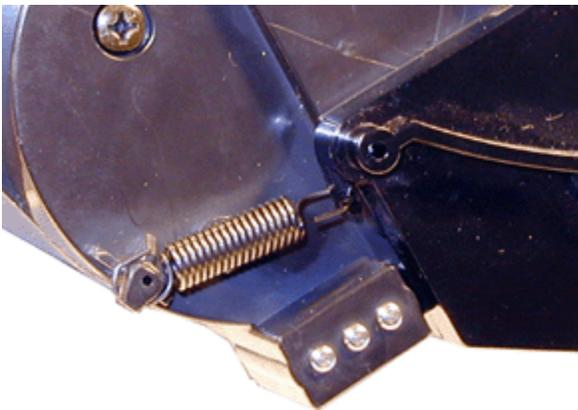

FIGURE 46
41. Install the spring from the end cap to the toner hopper post. See Figure 46